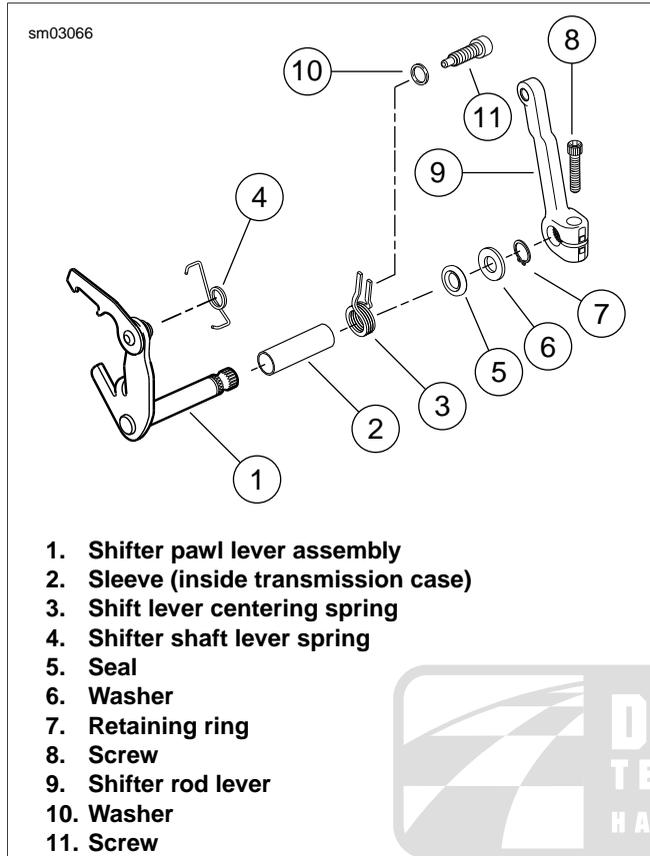

Figure 7-56. Shifter Arm Assembly
1. See Figure 7-56. After removing door assembly, remove screw (8) and shifter rod lever (9) from the shifter pawl lever assembly (1).
2. Remove retaining ring (7), washer (6) and seal (5). Discard retaining ring and seal. Pull shifter pawl lever assembly out of the transmission case.
3. Inspect sleeve (2) inside transmission case.
2. See Figure 7-56. Inspect the shifter pawl lever assembly (1) for wear. Replace assembly if pawl ends are damaged. Replace centering spring (3) if elongated.
3. Inspect the shifter spring (4). Replace if the spring fails to hold the pawl on the cam pins.
1. See Figure 7-56. Verify that sleeve (2) is inside transmission case.
7. See Figure 7-56. Install shifter rod lever (9) on the shifter pawl lever assembly shaft end using screw (8). Tighten to 18-22 ft-lbs (24.4-29.8 Nm).